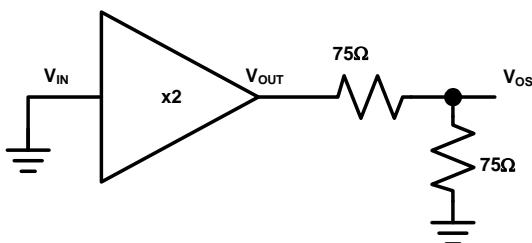

FIGURE 2. V_{OS} MEASUREMENT CONDITIONS
- Offset measurements are referred to 75 Ω load as shown in Figure 2.